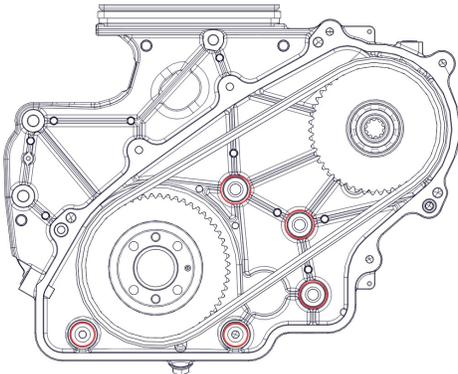

Figure 2
2. Using motor oil, lubricate the 5 O-rings (Figure 2).